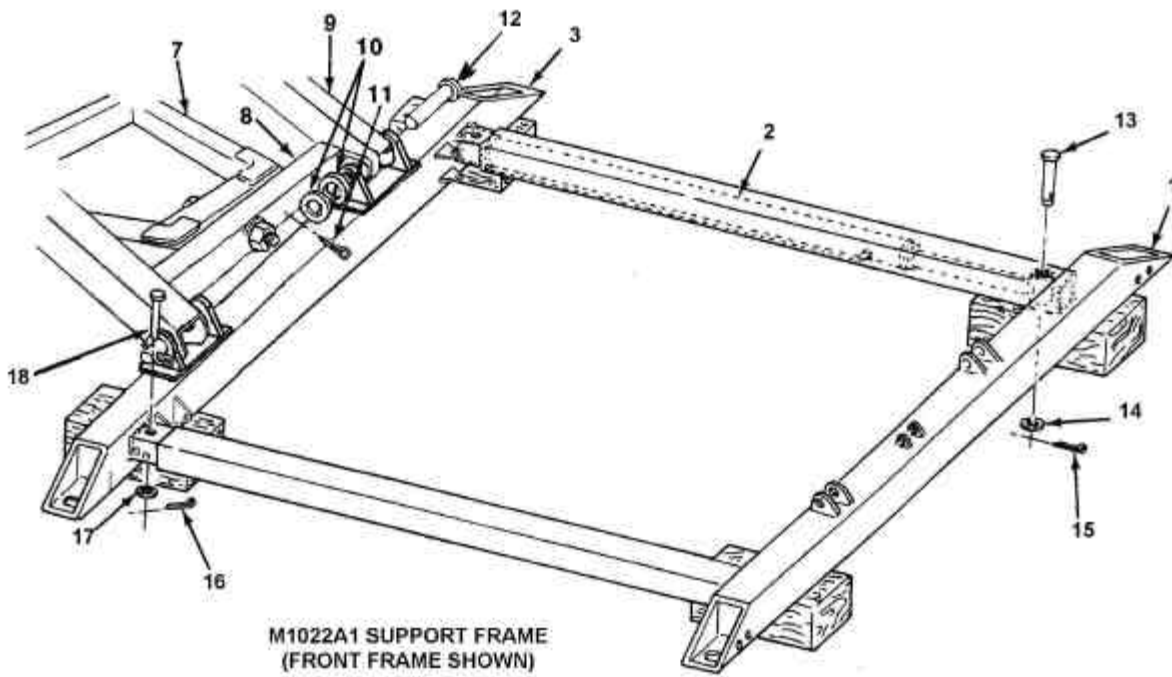

Figure 5
6. Remove the top and bottom beams and positioning cylinders from both the front and rear dollies (Figure 5) (Refer to Appendix C, Section a).